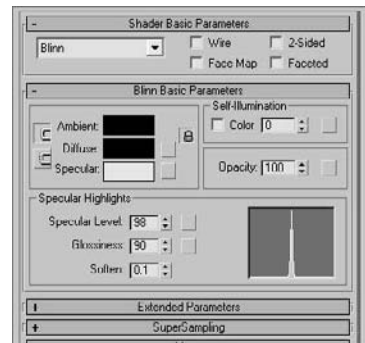

Figure 11.43
- In the Specular Highlights section, change the Specular Level to 98 and Glossiness to 90, as shown in Figure 11.43.